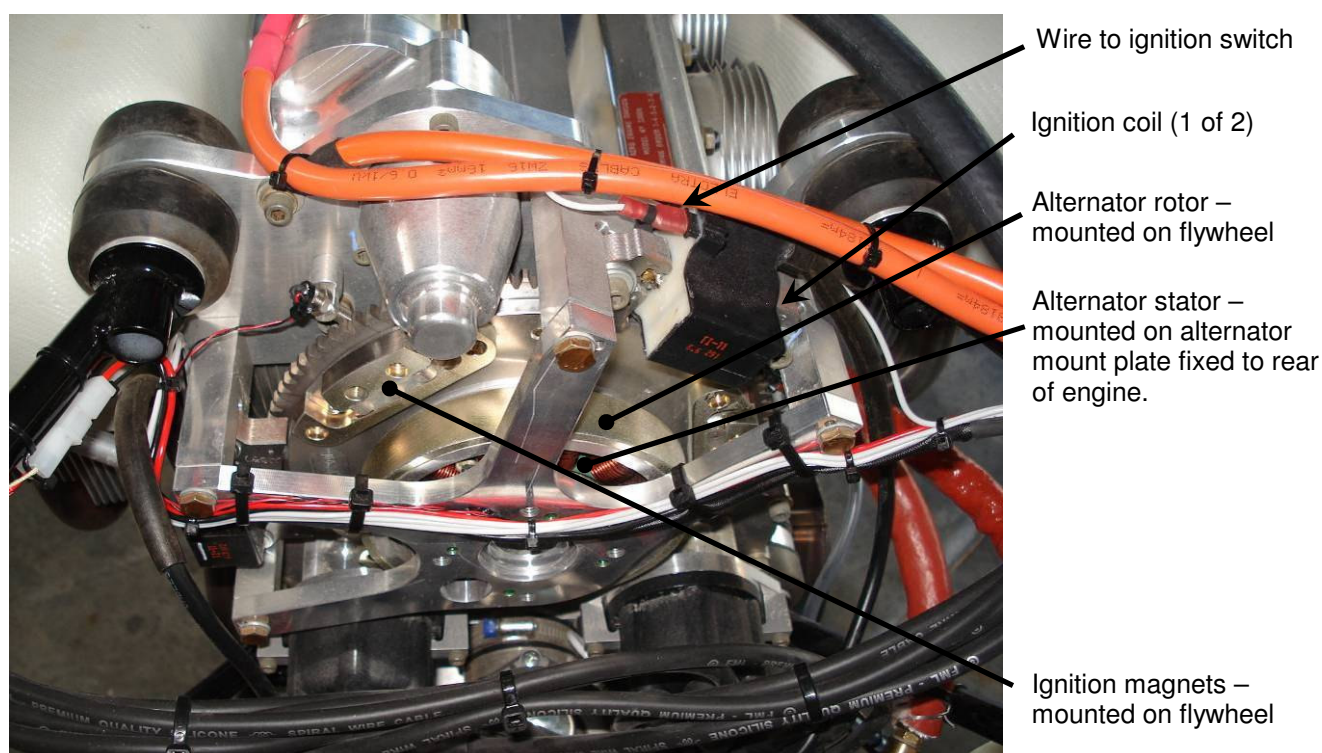

Figure 10. Ignition & Alternator Detail
- The ignition unit is a dual breakerless transistorised ignition with the magnets mounted on the flywheel and the coils mounted on the alternator mount plate. Figure 10 shows the coils of a Jabiru 6-cylinder engine.
- When installing new ignition coils the output leads go in the direction of prop rotation. RHS coil output lead is up LHS coil output lead goes down – See Figure 10.